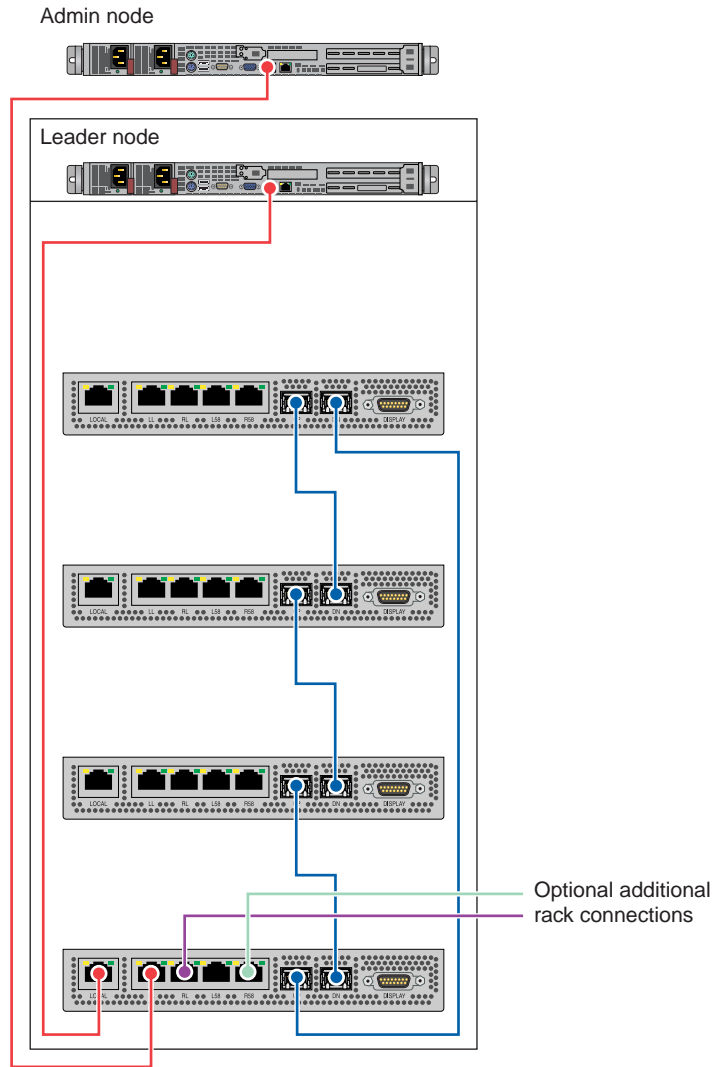

Figure 2-2 Chassis Manager Interconnection Diagram Example
- All enclosures within a system communicate with each other through their chassis manager connections (CMC) (note the chassis managers are enlarged for clarity in Figure 2-2).
The chassis manager in the lower IRU connects to the administration and leader servers, see Figure 2-2.